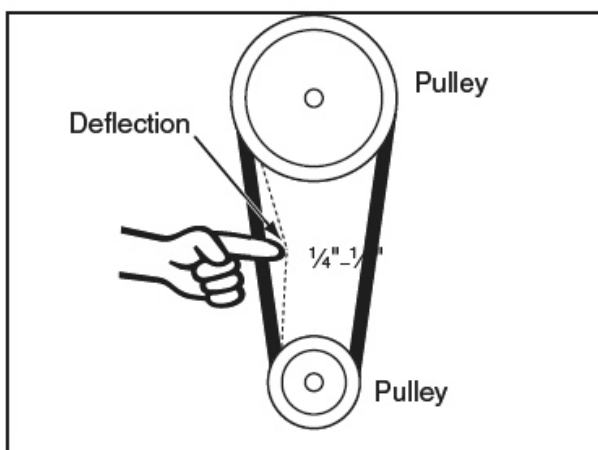

Figure 27. Checking V-belt tension.
7. Using the belt tension knob, adjust the Vbelt tension so there is approximately 1/4"-1/2" deflection when the V-belts are pushed with moderate pressure as shown in **Figure 27**.